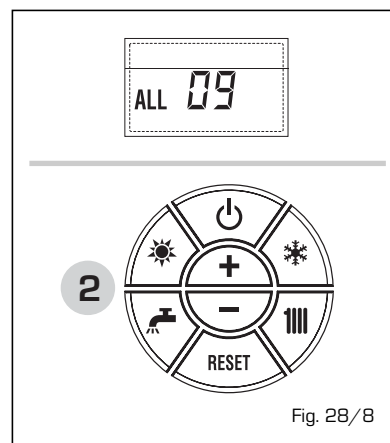

Fig. 28/8
**- ANOMALIA SONDA AUSILIARIA "ALL 10" (fig. 28/9)**
**CALDAIA CON ACCUMULO:** Anomalia sonda bollitore (SB).